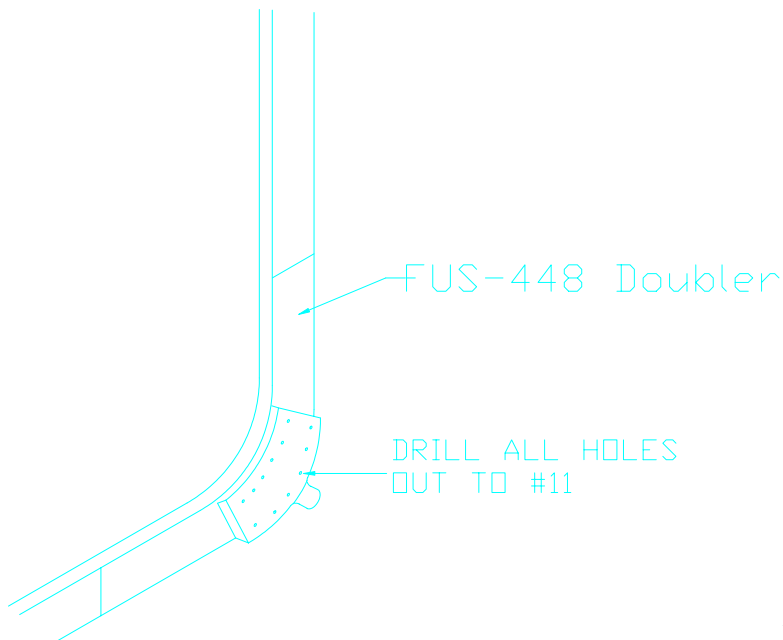

Figure 9.16.2
- 7) Carefully back drill through the bracket (FUS-42-1) into the bulkhead and doubler using a #30 drill bit. Cleco as you go. Drill all of the holes out to #11 as per figure 9.16.2. Cleco as you go. Remove the doubler and bracket.